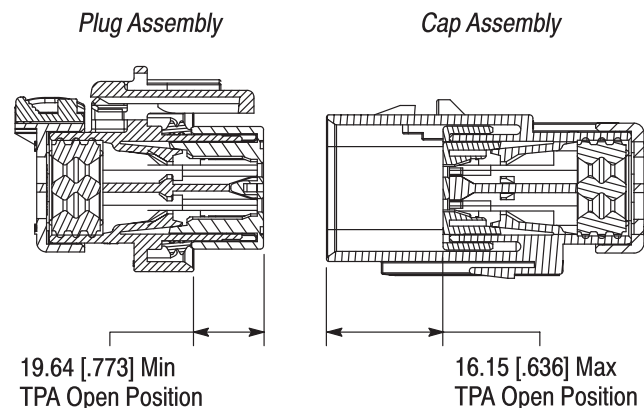

Figure 3
Before manually loading the crimped contacts into the housing assemblies, verify that the TPA is in the pre-staged position (see Figure 3).
2. Push the TPA into the pre-staged position by using the extraction tool or manually by hand. Refer to Section 4 and Figure 3 to verify the correct position.